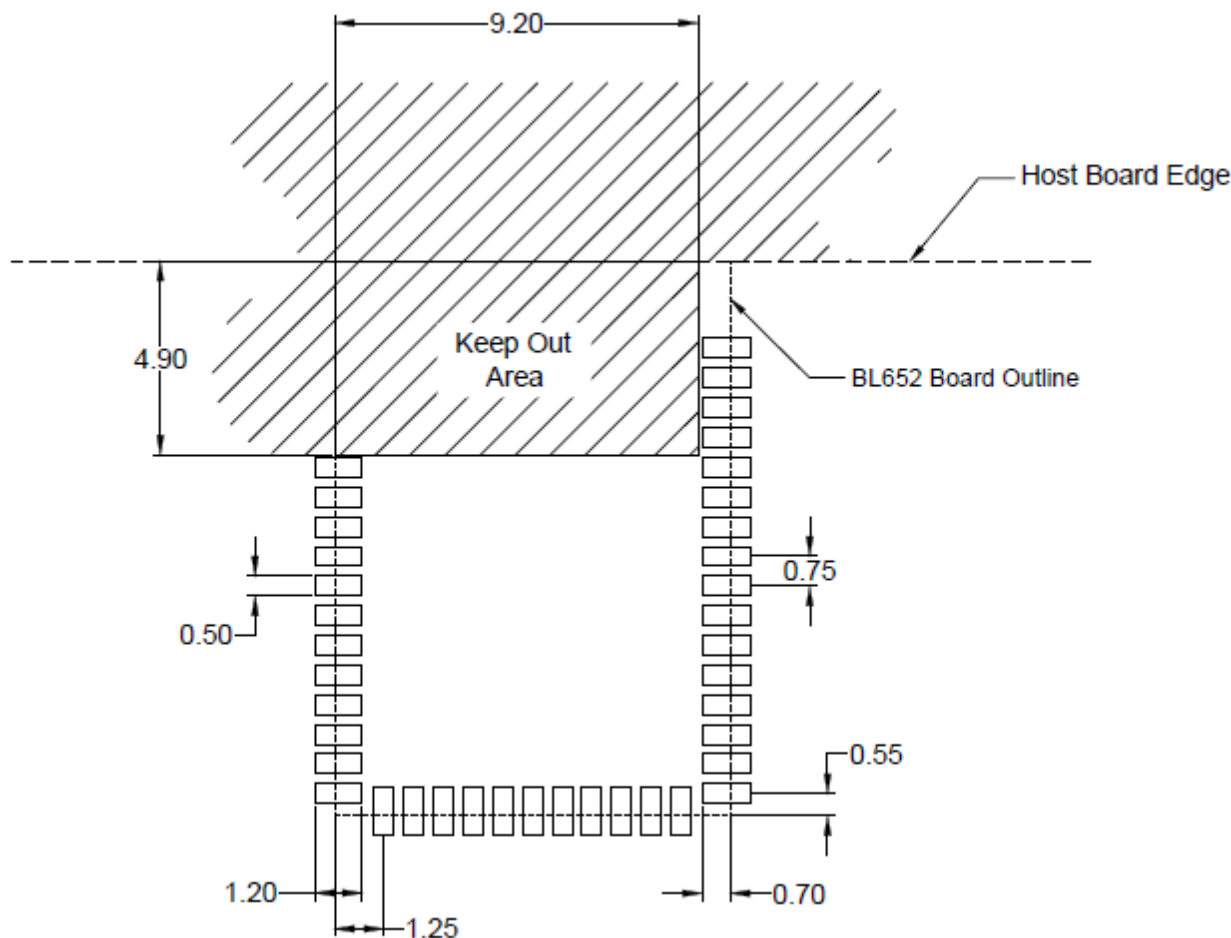

Figure 11: Land pattern and Keep-out for BL652-SA
- Note 3** BL652 development board has BL652-SA placed on the edge of the PCB board (and not in corner) for that the Antenna keep out area is extended down to the corner of the development board, see section *PCB Layout on Host PCB for BL652-SA*, Figure 11. This was used for module development and antenna performance evaluation.